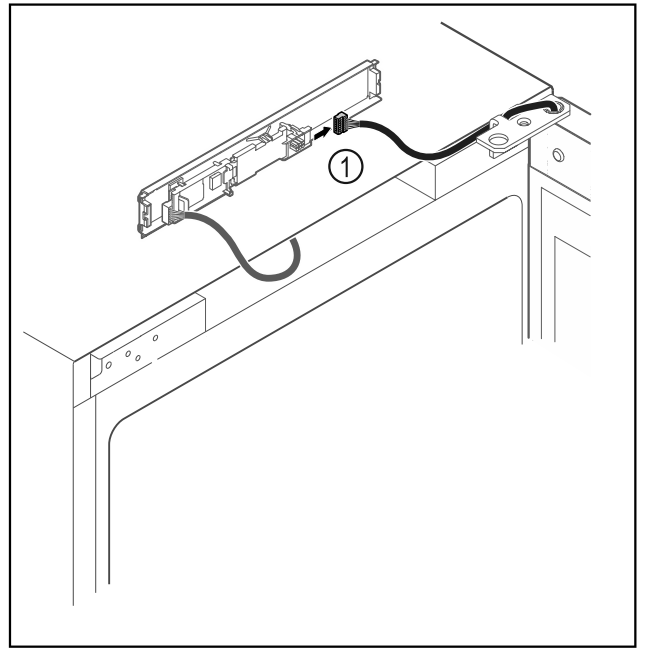

Fig. 13
- ▶ Disconnect the plug Fig. 13 (1) from the circuit board.